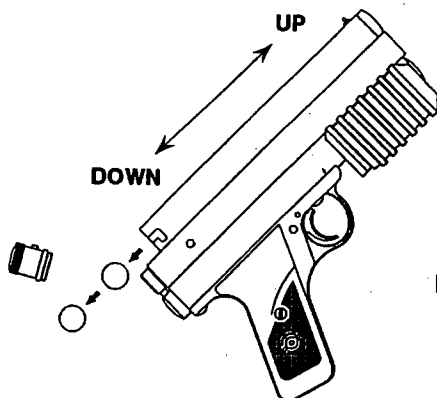

FIG. 5
- Hold the gun with the muzzle in the upward position and allow the remaining paint balls in the magazine to empty out of the magazine. (Fig. 5).